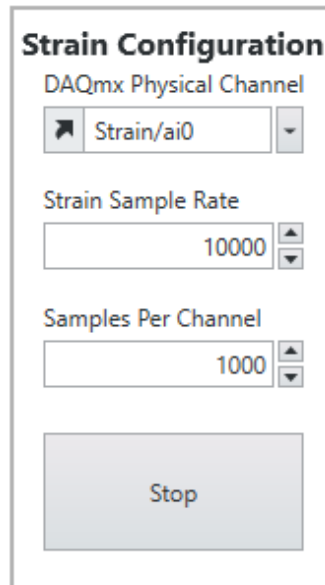

Figure 5-22 A good rule of thumb is to set the number of samples to 1/10th of the sample rate.
39. Set the *Strain Sample Rate* to 10000 Hz and the *Samples Per Channel* to 1000, like in Figure 5-22.